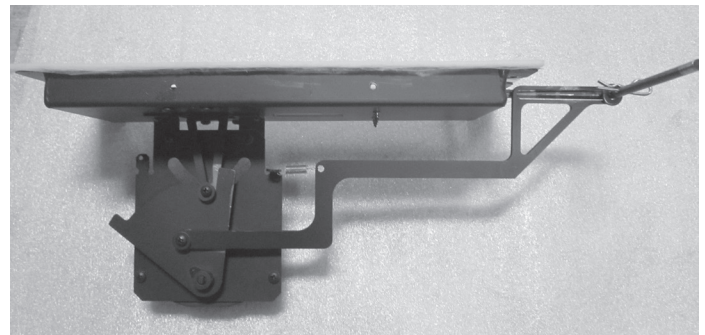

Figure 4.21 Timer Assembly
7. On the new timer assembly, Figure 4.21, remove the front hairpin clip and washer then two (2) screws disconnecting the air chamber before installation. See Figure 4.22.